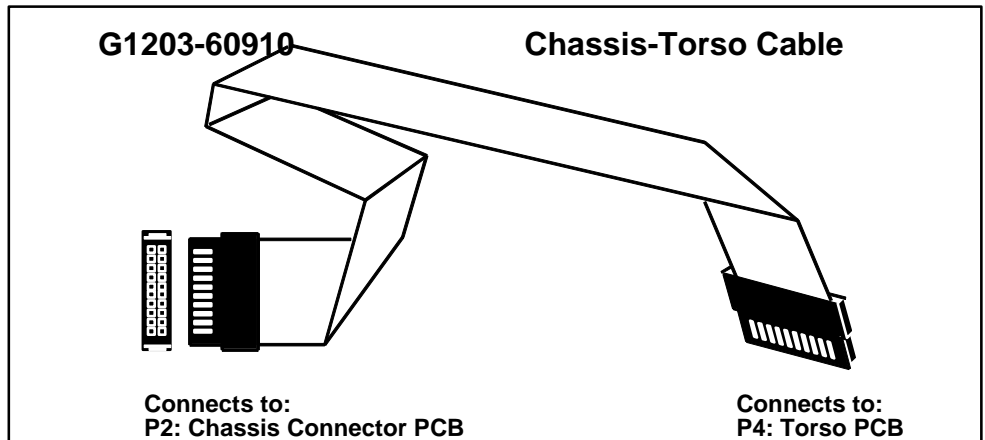

Figure 3-11. Chassis/Torso cable.
2. Insert the four wires into the supplied connector in the order shown in figure 3-11.